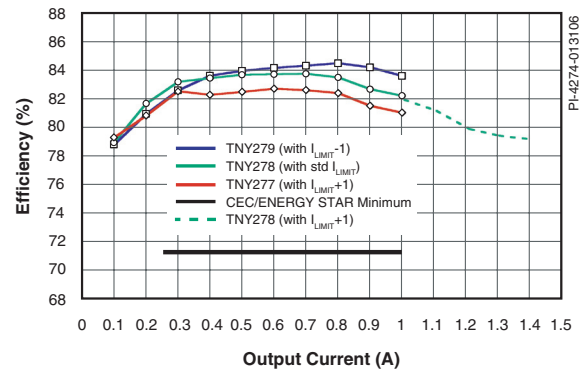

Figure 2. Operating Efficiency vs. I_{LIMIT+} , I_{LIMIT-} and Device Size.
- In the *TinySwitch-III* family of devices, the MOSFET current limit can be selected from 3 levels by the value of capacitance on the BP/M pin. This gives the designer a number of options, which are shown in Figure 2. First, a TNY279 could be used, with the current limit of a TNY278, to obtain higher efficiency. Second, a TNY277 could be used, with the current limit of a TNY278, to deliver the same power at a lower efficiency. Lastly, a TNY278 could be used, with the current limit of a TNY279, to extend the power capability of the supply*.